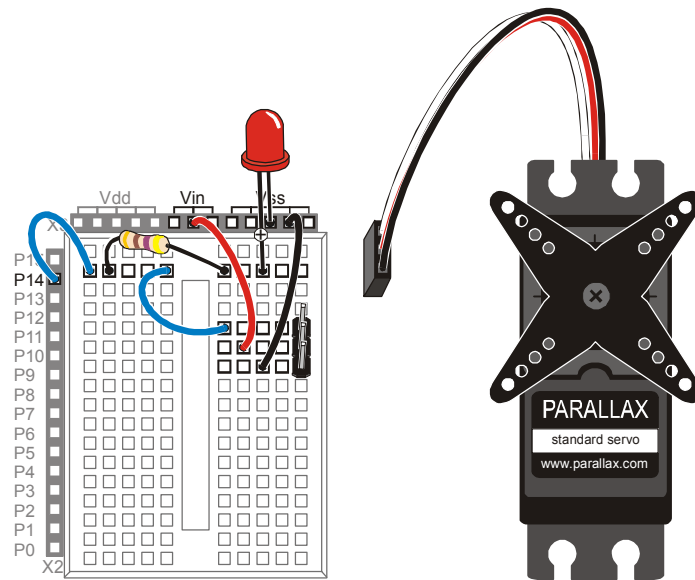

Figure 4-10
- ✓ Build the LED indicator and servo header circuit shown in Figure 4-10.